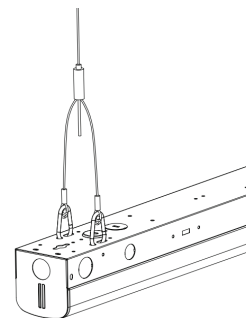

Figure 6
- Attach the clips on each end of the short cable to the appropriate holes in the back of the fixture (Figure 6).